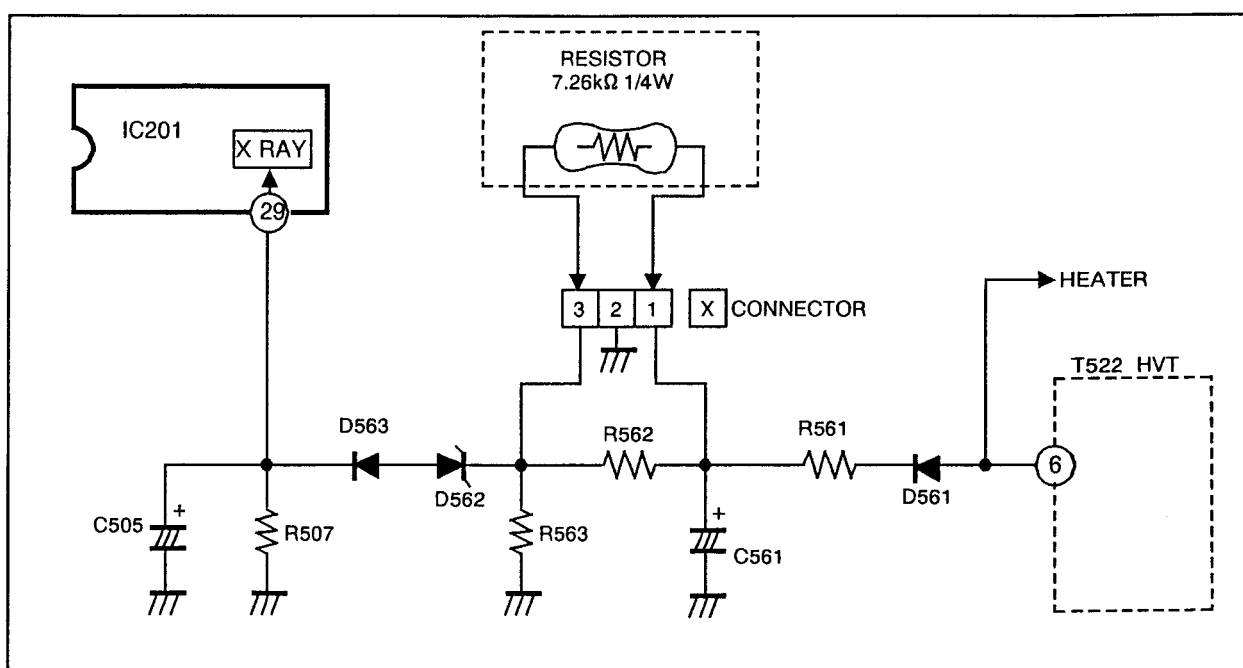

Fig. 1
After repairing the high voltage hold down circuit shown in Fig. 1.
- (1) Turn the POWER SW ON.
- (2) As shown in Fig. 1, set the resistor (between X connector 1 & 3).
- (3) Make sure that the screen picture disappears.
- (4) Temporarily unplug the power cord.
- (5) Remove the resistor( between X connector 1 & 3).
- (6) Again plug the power cord, make sure that the normal picture is displayed on the screen.